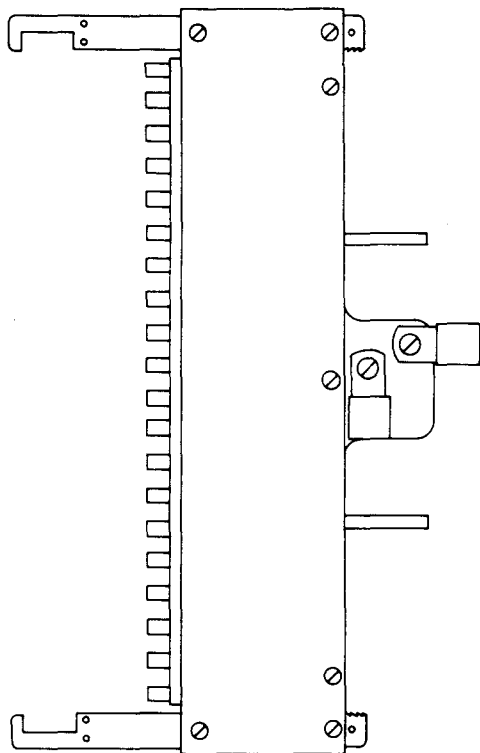

Fig. 3—405A Plug
**2.03 405A:** The 405A plug (Fig. 3) consists of a metal frame containing twenty spring-loaded contact plungers numbered 0 to 19 for making contact with terminals on terminal strips, and a metal sliding arm designed to fit over the mounting strip of the 35-, 36-, 168- and P-type terminal strips. This plug is used to connect subscriber line terminals on the vertical intermediate distributing or horizontal combination distributing frame with the traffic usage recorder circuit of the Step-by-Step System.